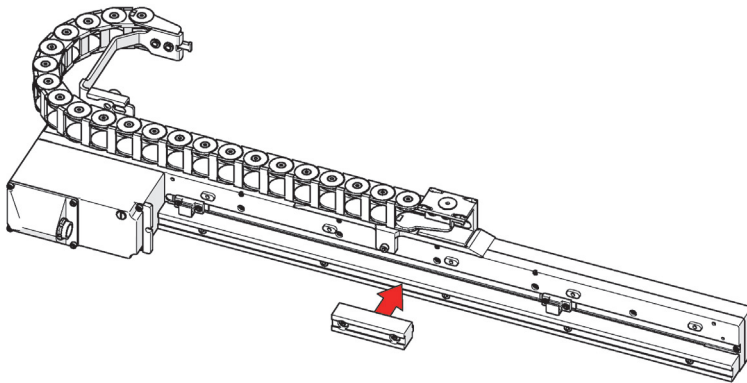

Figure 2-39 Attach the probe holder mount to the mounting rail
1. Using the 3 mm hex driver, attach the probe holder mount (optional; P/N: Q8301377) to the mounting rail of the raster arm (see Figure 2-39 on page 81).